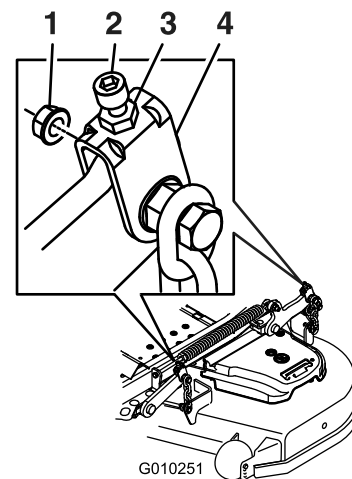

**Figure 86**
9. On both sides of the deck, measure from the level surface to the front tip of the blade (Position A). The measurement should read 3 inches (7.6 mm) (Figure 86).
15. On both sides of the deck, measure from the level surface to the back tip of the blade (Position B). The measurement should read 3 1/4 inches (8.3 cm) (Figure 86).